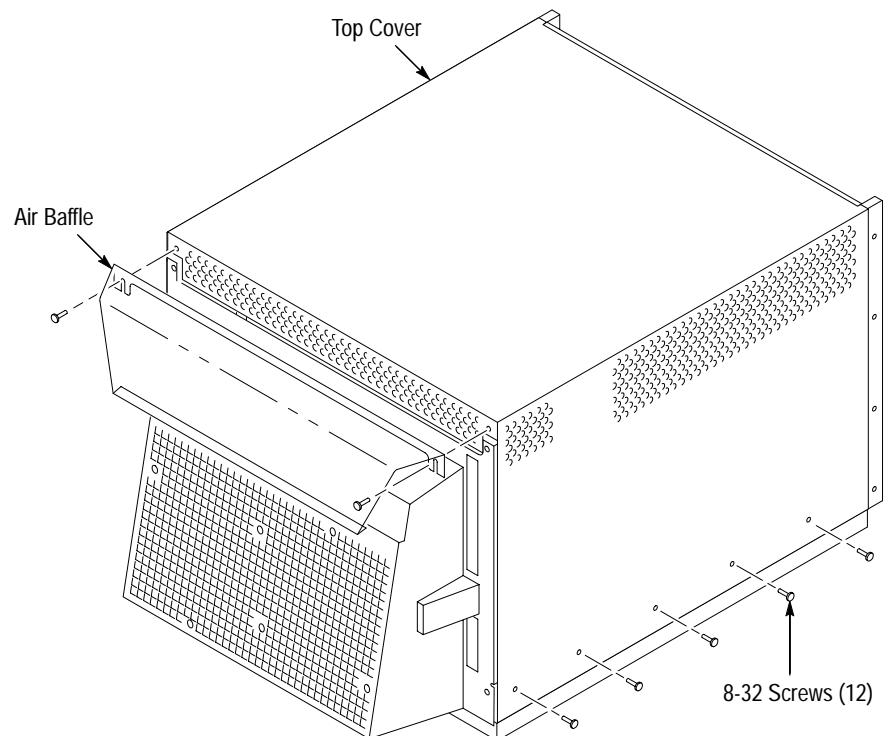

Figure 12: Reinstalling the Top Cover and Adding the Air Baffle
4. To add the air baffle, refer to Figure 12, and use a $\frac{3}{32}$ inch Allen wrench to reinstall the two 8-32 screws holding the air baffle and top cover to the mainframe.
- b. To add the air baffle, refer to Figure 12, and use a T-10 Torx drive to reinstall the two 8-32 screws holding the air baffle and top cover to the mainframe.